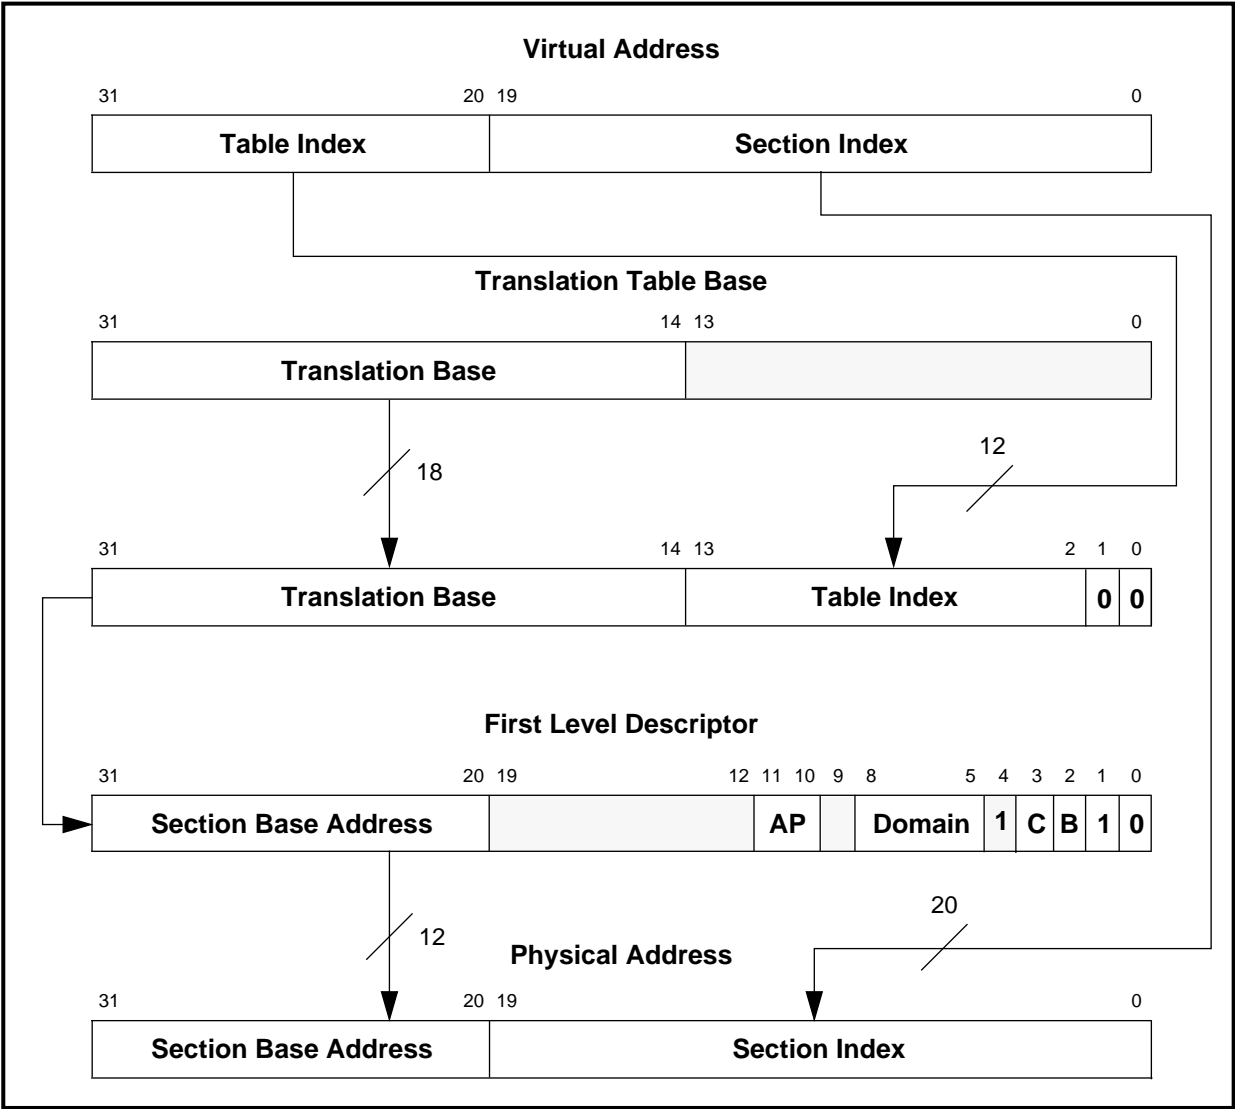

Figure 8-4: Section translation
**Figure 8-4: Section translation** illustrates the complete Section translation sequence. Note that the access permissions contained in the Level One Descriptor must be checked before the physical address is generated. The sequence for checking access permissions is described below.